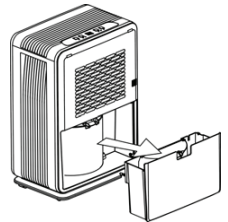

Fig. 01
1. Take out the water tank as Fig 01 and pour out the water.